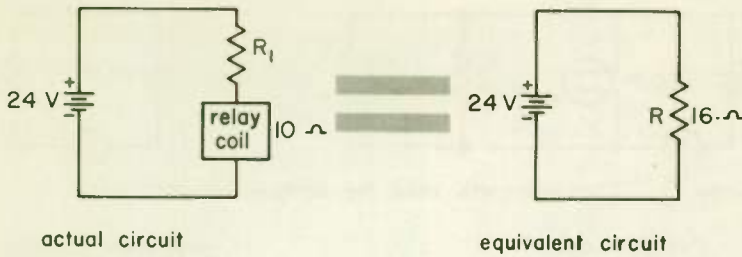

Fig. 22
6. (a) Increasing (b) Series (c) See Fig. 22, left side (d) See Fig. 22, right side. (e) 6 Ω ... R_1 and the relay coil must have a total resistance of 16 Ω as shown in the equivalent circuit. $R_1 = 6 \Omega$, since $10 \Omega + 6 \Omega = 16 \Omega$.